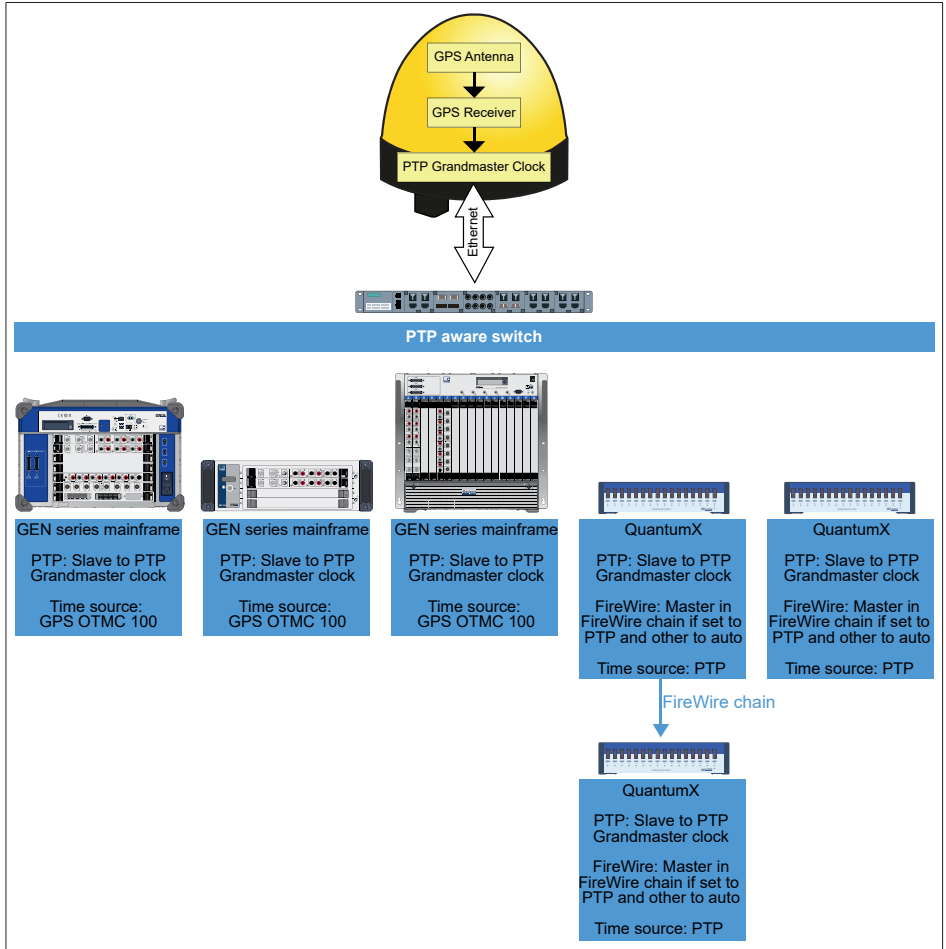

Fig. 15.29 GPS receiver with tethered mainframes plus QuantumX
- G002B: GPS receiver with tethered mainframes plus QuantumX (see Fig. 15.29)